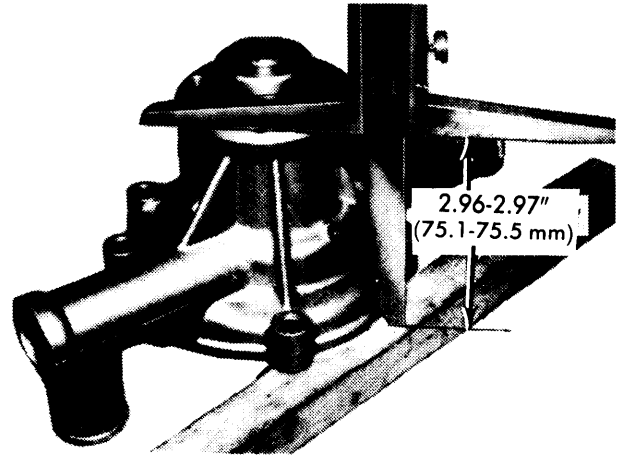

Fig. 16 Measuring Clearance Between Hub Flange and Pump Face
- 5) Press fan hub onto pump shaft until a distance of 2.96-2.97" (75.1-75.5 mm) exists between hub flange and pump face (See Fig. 16). To install, reverse removal procedure.